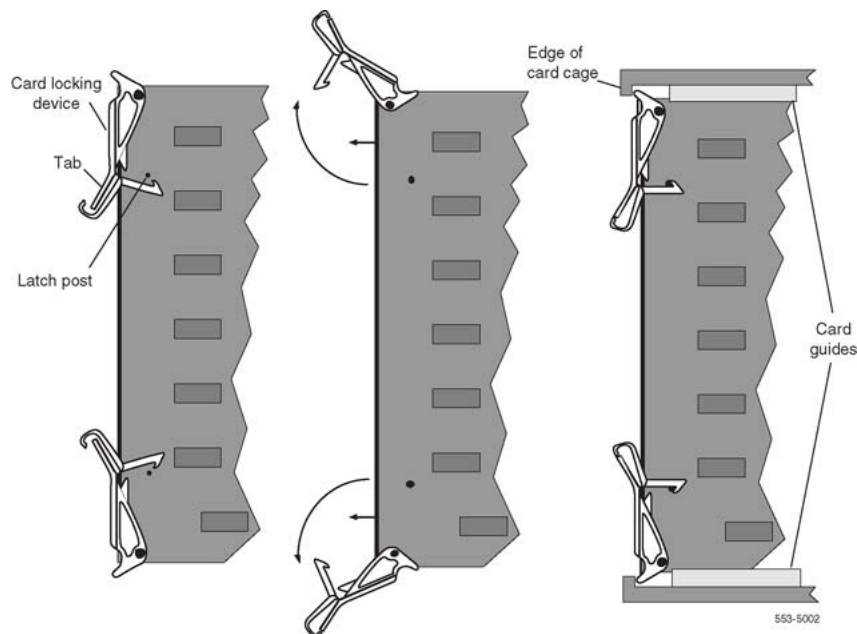

Figure 18: Installing the circuit card in the card cage
6. Squeeze the ends of the locking devices on the card and pull the tabs away from the latch posts and faceplate (see Figure 18: Installing the circuit card in the card cage on page 78).
7. Insert the card into the card aligning guides in the card cage. Gently push the card into the slot until you feel resistance. The tip of the locking device must be behind the edge of the card cage (see Figure 18: Installing the circuit card in the card cage on page 78).